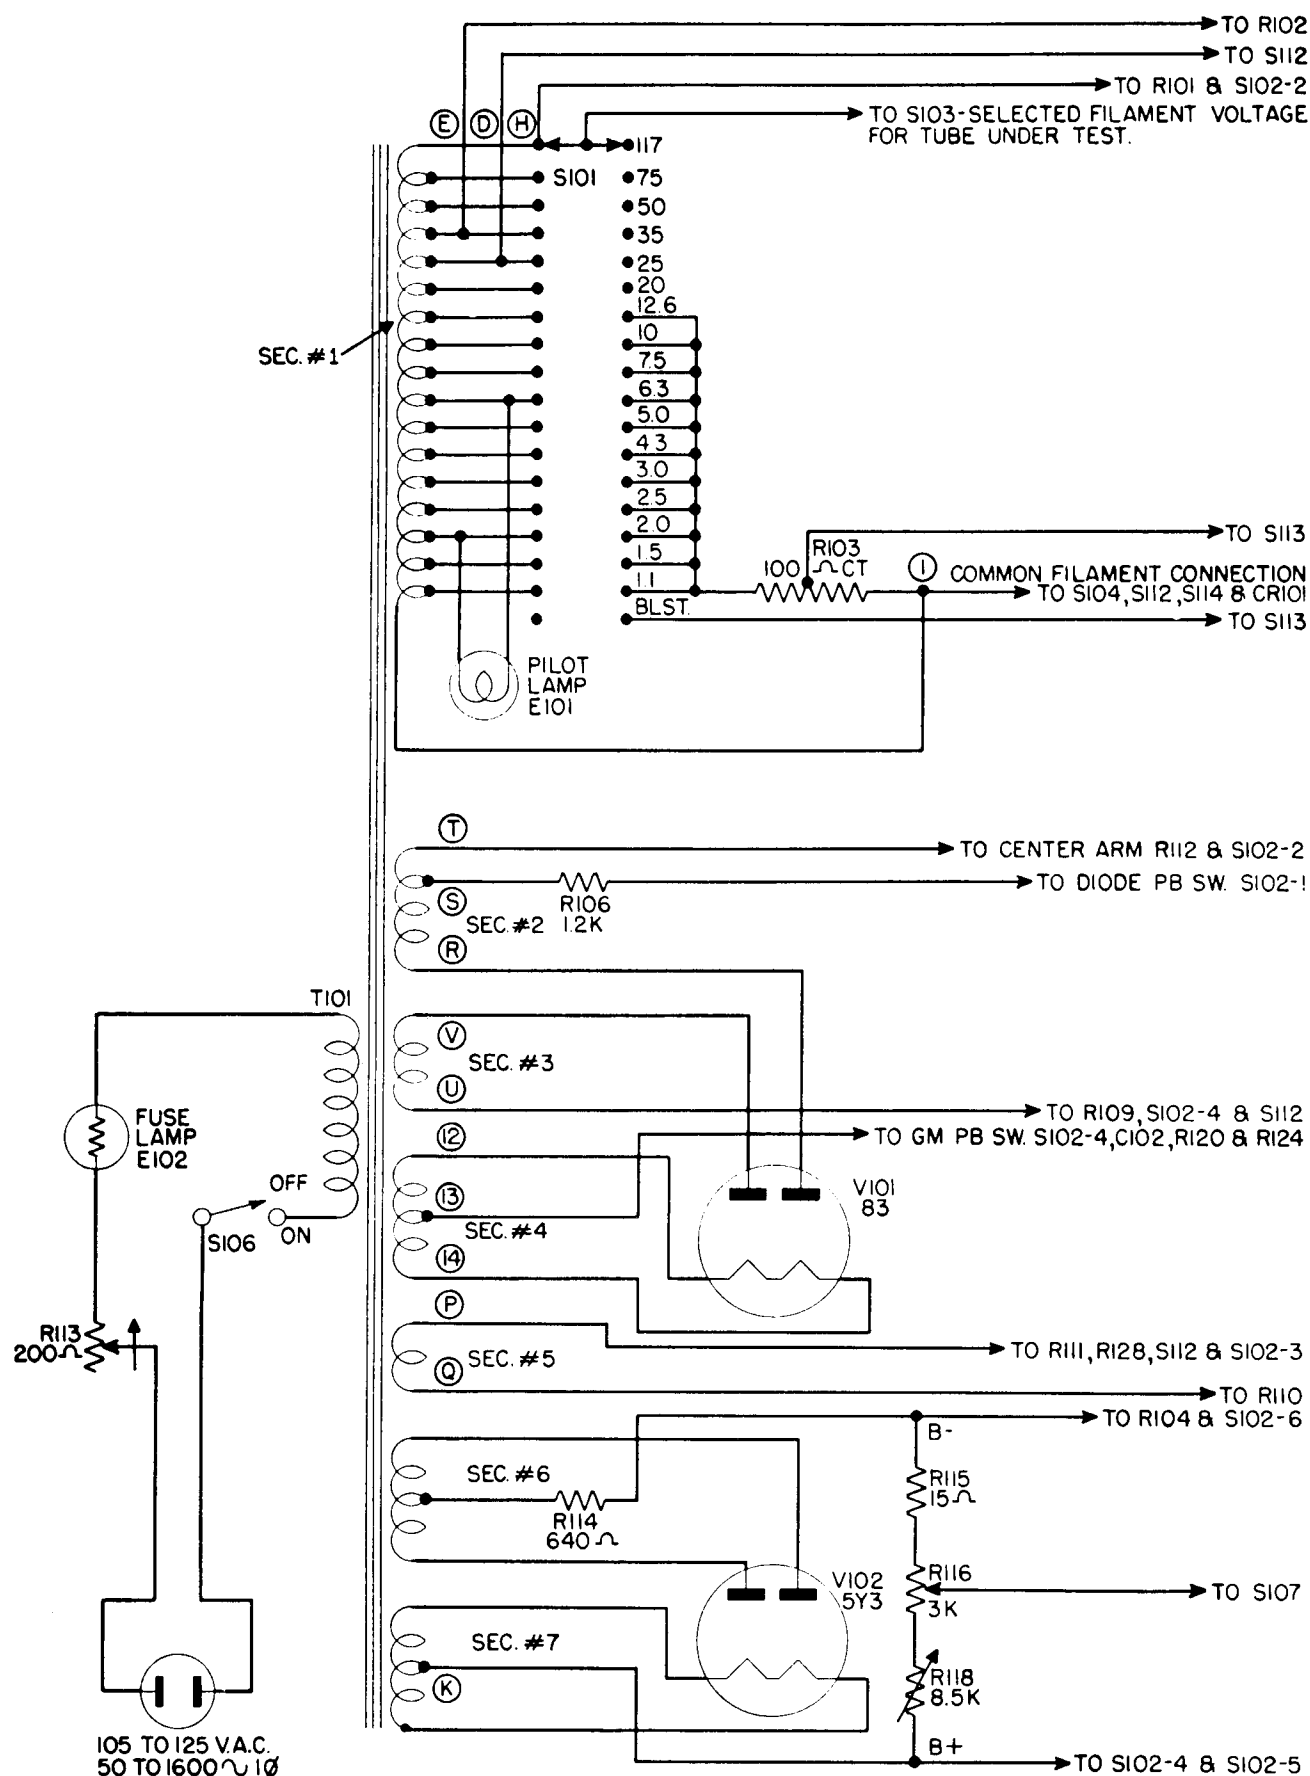

Figure 2-3. Simplified Power Supply Circuit
(See Figure 2-3 opposite page)
b. Secondary #1 of power transformer T101 consists of a multi-tapped winding designed to supply the various filament or heater voltages for the tubes under test. Voltages shown on Figure 2-3 are measured under load. No load voltages will be somewhat higher. For example; no load voltage measured from point (H) to point (I) will be approximately 124 volts with 93 volts on the primary. Secondary #1 also supplies voltage for rectifier emission tests.
a. Pressing the LINE ADJ. push button P7 connects the METER, M101, through resistor R101 and copper oxide rectifier CR 101 to points (H) and (I) of the power supply (Figure 2-3).
b. The values of R101 in series with the meter and R131 and R133 in shunt are such that 124 volts rms across (H) and (I) of the power supply will cause the METER M101 to read 100 volts or LINE TEST.
c. The design of the power transformer T101 is such that 93 volts applied to the primary winding will induce 124 volts across the total secondary #2 winding or across points (H) and (I).